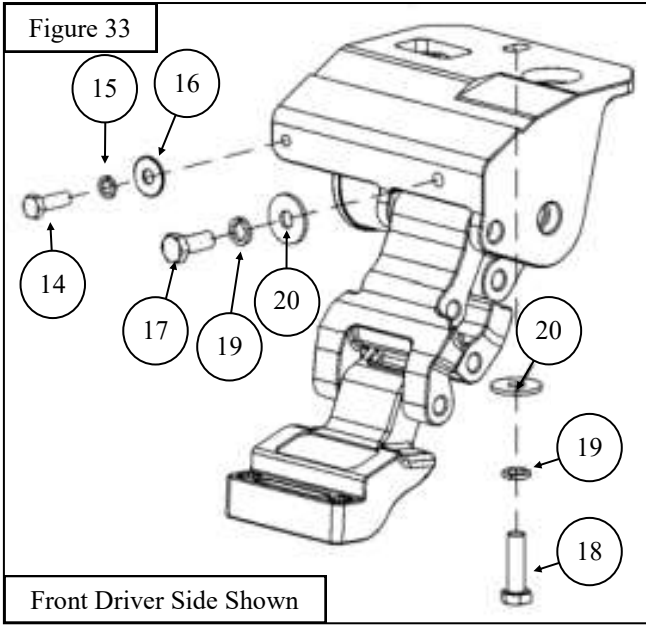

Figure 33
16. Loosely install the Front Motor Linkage (Item 2) to the front rocker panel mounting location using the supplied M8 and M10 hardware as shown in **Figures 33 & 34**. Please refer to **Figures 31 & 32** for bracket orientation and locations.